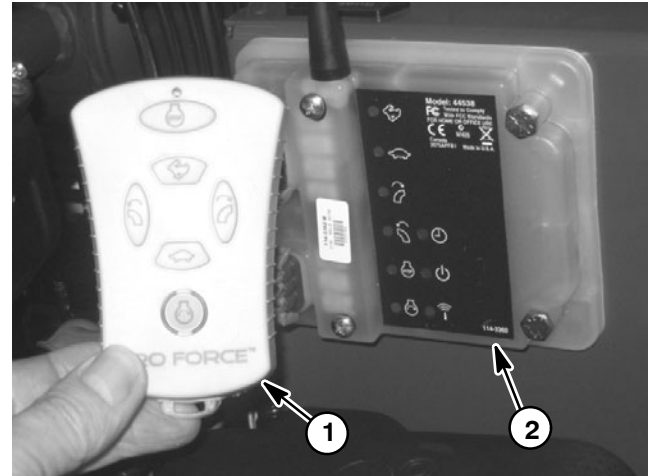

Figure 15
The remote transmitter is a solid state electrical device that sends radio frequency (RF) signal inputs to the machine control module for control of machine electrical operation (Fig. 15). The remote transmitter has sufficient range to send an RF signal to the control module from the tow vehicle operator position.